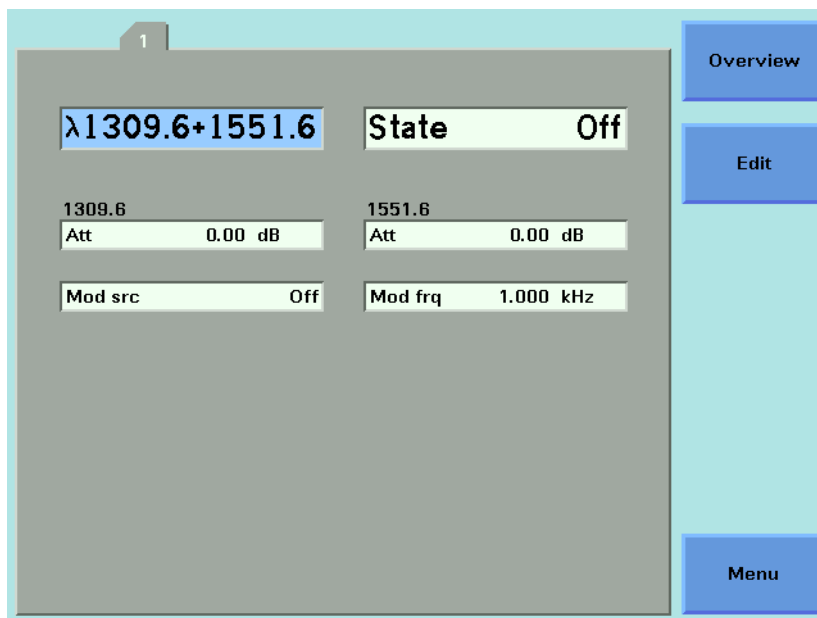

Figure 59 Dual-Wavelength Laser Source Outputs Both Wavelength
- 2 Select $\lambda 1309.6+1551.6$, using the cursor key, and press *Enter*. You will see the screen in Figure 59 .